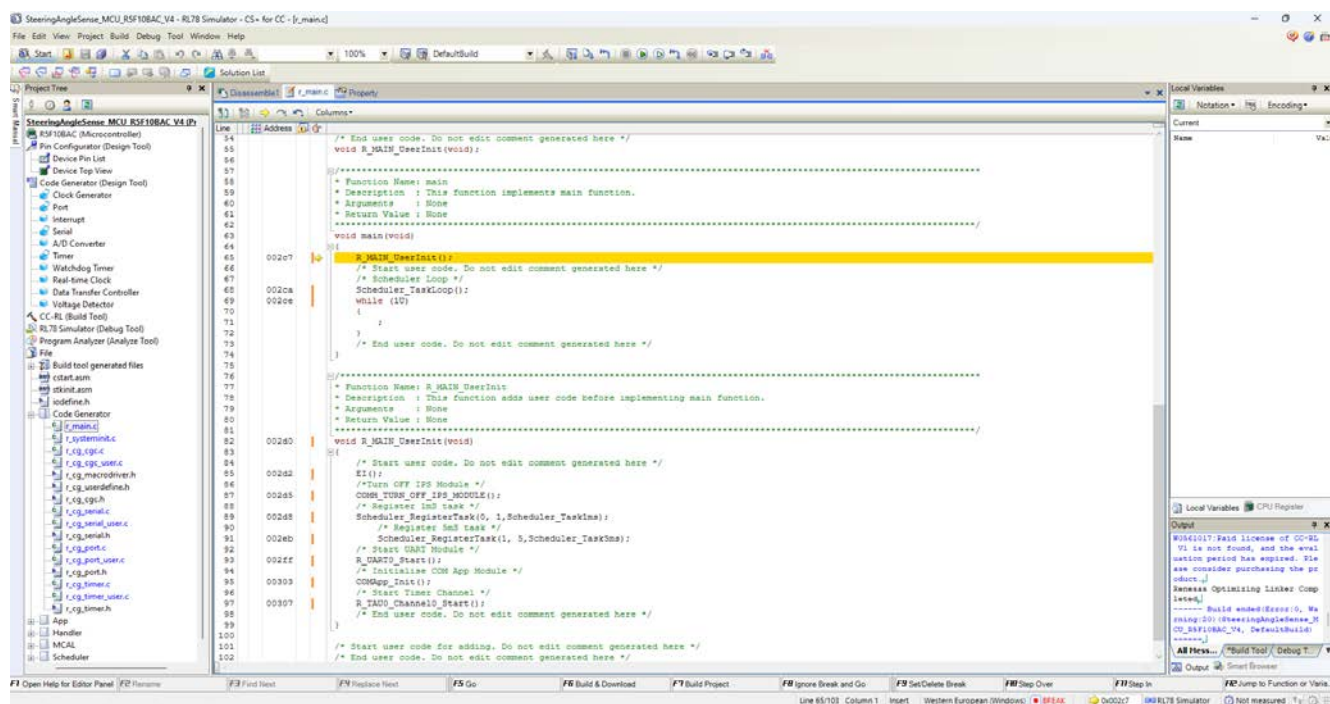

Figure 12: Debug Window
3. After the download is successful, CS+ opens the debug window (see Figure 12).